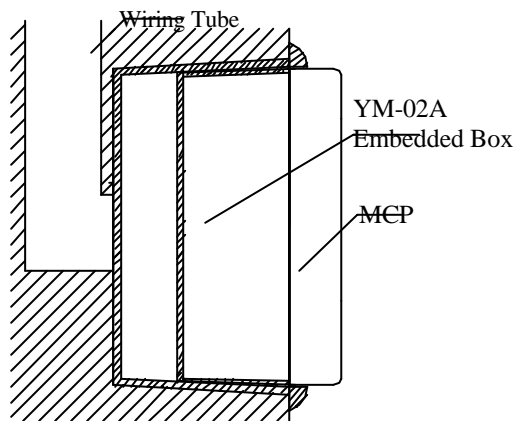

Fig.4 Flush mounting
- b. Flush mounting can adopt YM-02A embedded box, as shown in Fig.4